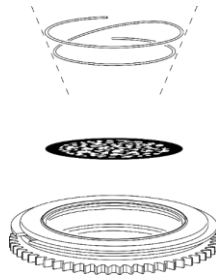

Fig. 16
10) Carefully insert the retainer spring with the narrow end against the gobo (see Fig. 16). To identify the narrow end, press the spring flat: the narrow end is on the inside.